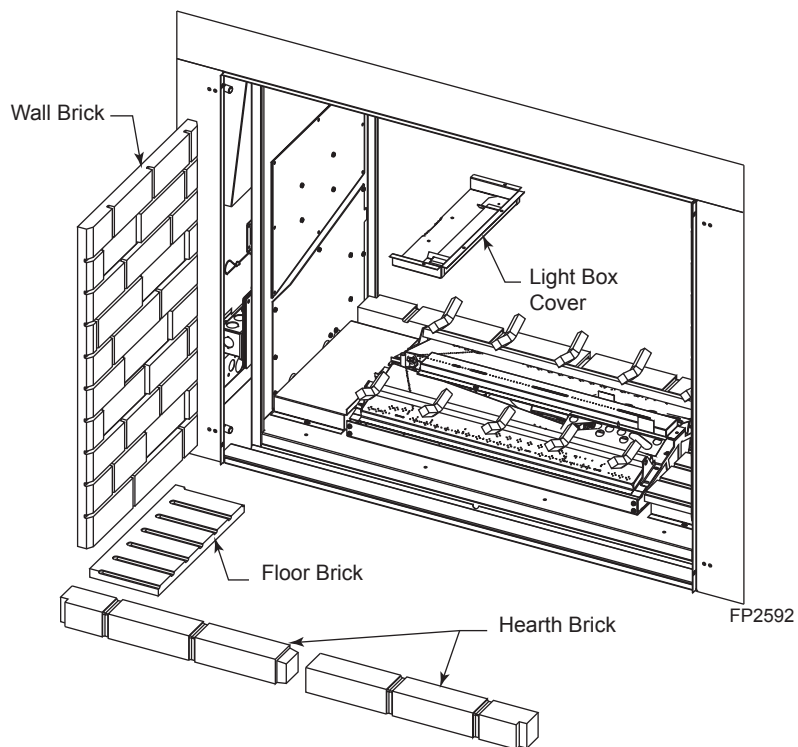

**Figure 44 -
4. The light lenses are included in the Homeowner's Manual packet. Remove the lens retainer brackets and install the light lenses into the light box covers as shown in *Figure 44*.